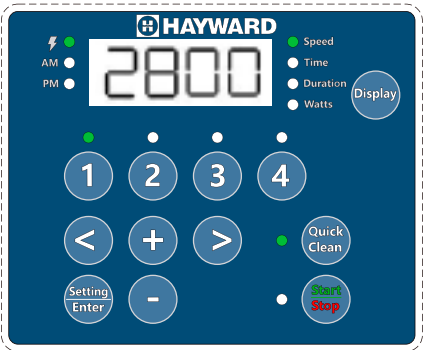

Figure 6
2. Press Quick Clean. The Quick Clean LED and “Speed” parameter LED will blink while editing. **See Figure 6.**